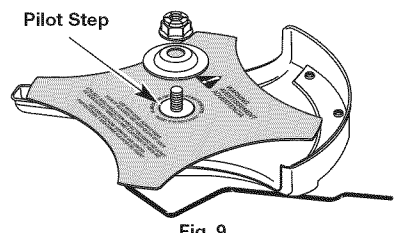

Fig. 9
- Make sure that the cutting blade is centered on the pilot step and sitting flat against the output shaft bushing (Fig. 9).